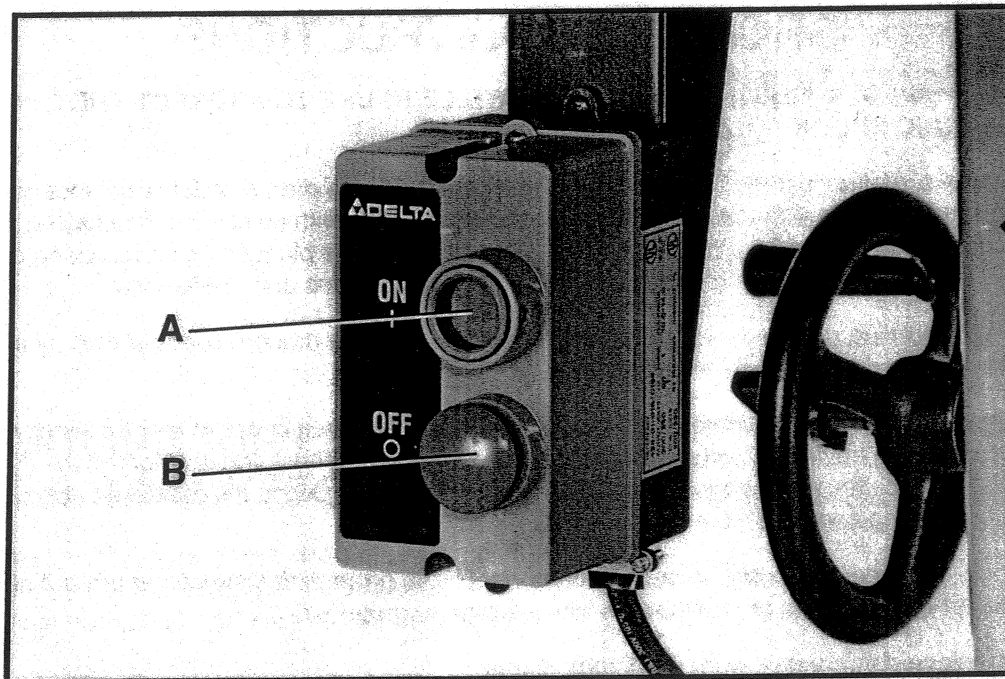

Fig. 62
To apply power to the machine, push on button (A) Fig. 62. To stop the machine, push off button (B).